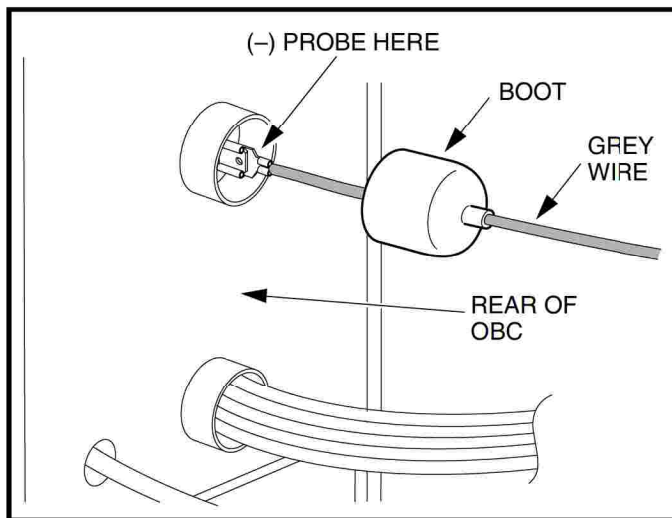

Figure 11-19
1. With batteries connected and the DC cord disconnected, pull back on the boot on the gray wire connection at the OBC (**Figure 11-19, Page 11-37**). Using a multimeter set to 200 volts DC, connect the red (+) probe to the positive post of battery no. 1 and black (–) probe to gray 16-gauge wire at the OBC connection. Reading should be approximately 48 volts. If reading is zero volts, replace the OBC.